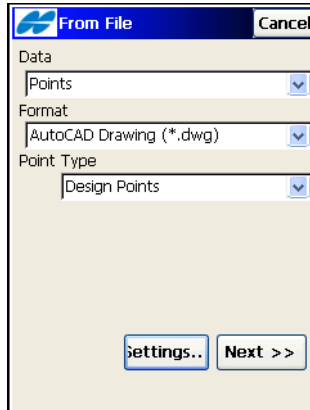

Figure 5-13. From AutoCAD DXF
1. If the *AutoCAD DXF* or *AutoCAD Drawing* format is selected, select the Point Type on the **From File** screen (Figure 5-13).